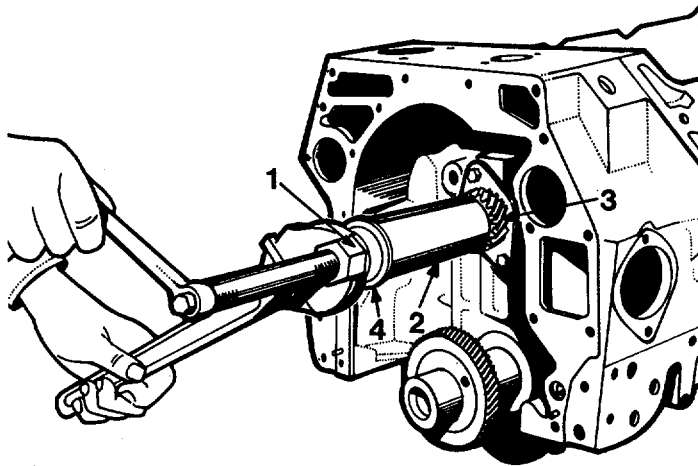

Fig. 123 Installing Distributor Drive Gear Using SE-1900 Tool Set with Thrust Bearing
1. Install distributor drive gear against thrust flange on camshaft using SE-1900-14 sleeve with SE1900-16 adapter, Figure 123. A thrust bearing is also used under the forcing screw nut to reduce friction.